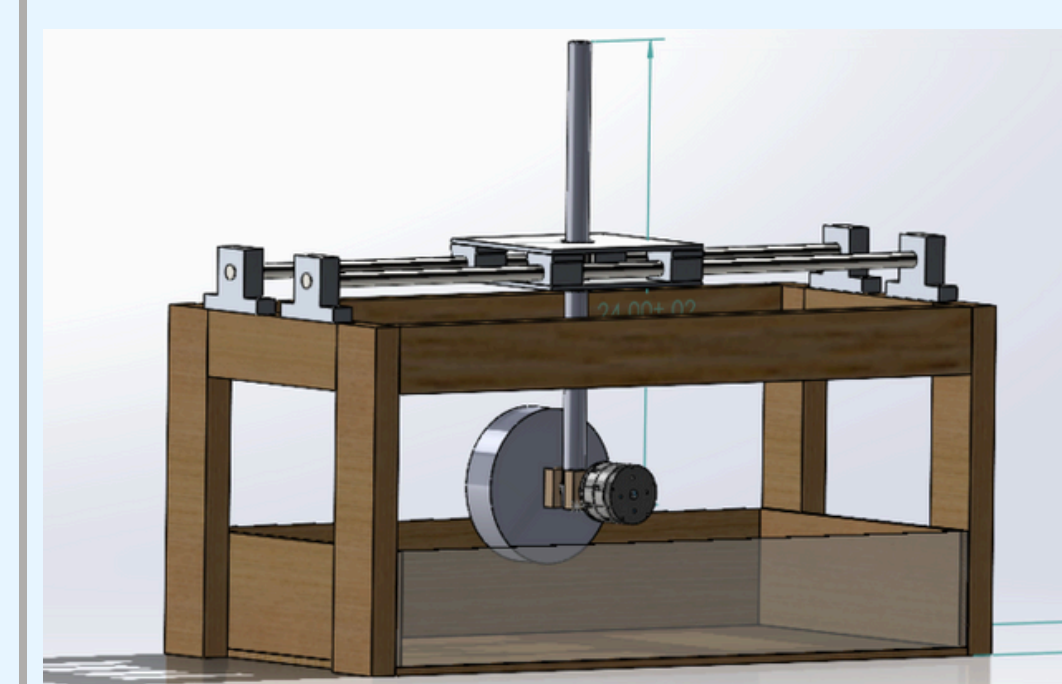

Figure 1. Testing Rig CAD
- Create a testing rig (Fig. 1) to collect wheel performance metrics